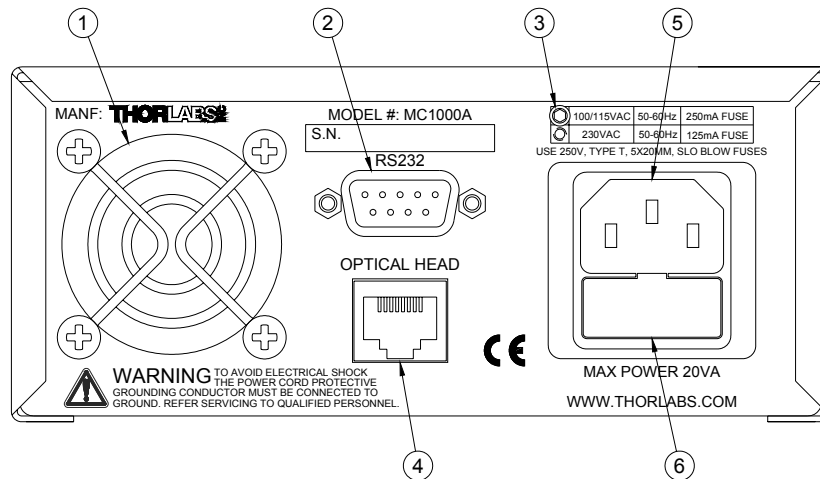

Figure 2 – MC1000A Rear Panel
7. Remove the line voltage selection screw and reinstall in the appropriate location. See page 11, Figure 2 for details.